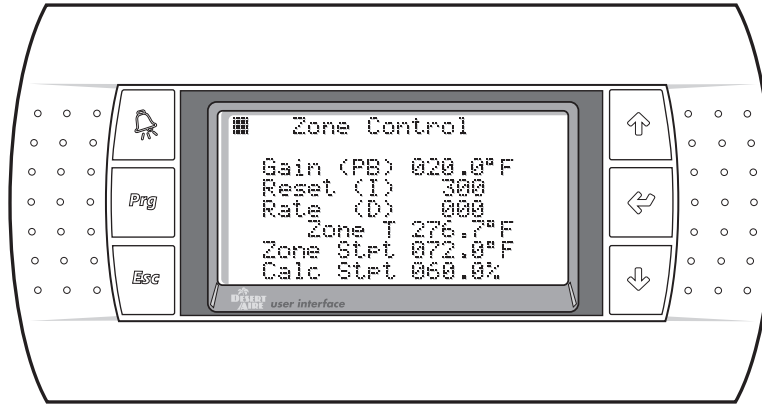

Figure 60
2.6.2.5 Zone Control Settings (Figure 60)